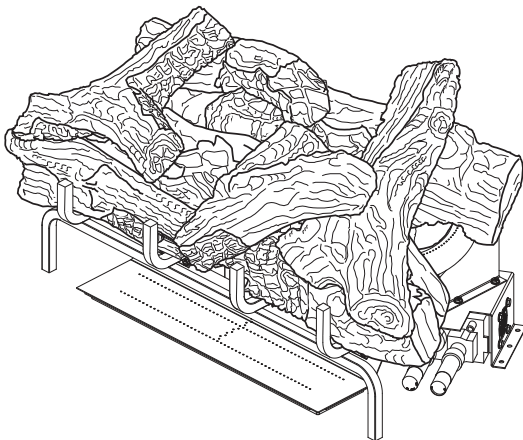

Figure 36- Final Assembly
9. Final Assembly is shown in **Figure 36, Page 20**.